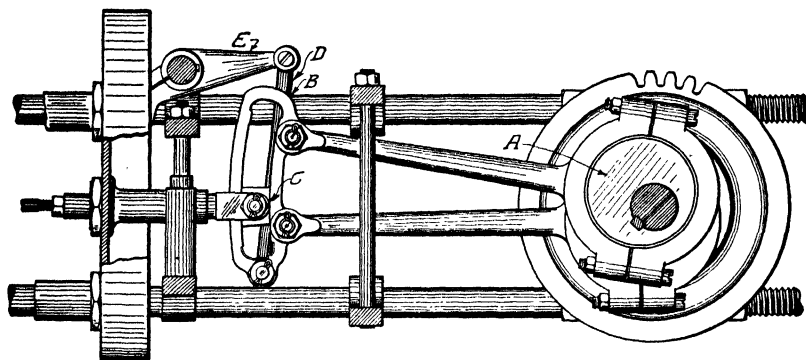

Fig. 24. Stephenson Link Motion Used on Stanley Steam Cars
*Stephenson Link.* The Stephenson link is shown in Fig. 24. It consists of two eccentrics *A* on the crankshaft—one for the forward motion and the other for the reverse. The two eccentric rods are pinned to the link *B*, in which there is a curved slot. In the slot is carried the block *C*, which is a sliding fit and is pinned to the valve stem.